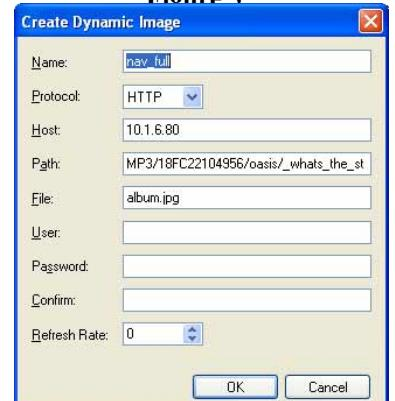

Figure 4
- b. In the "Resource Manager" dialog box, click the "New" button in the upper right. This will open the "Create Dynamic Image" dialog box (**Figure 4**).